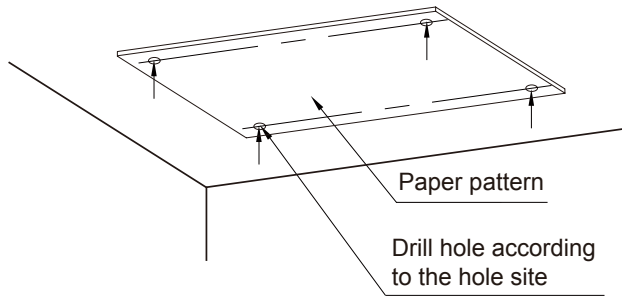
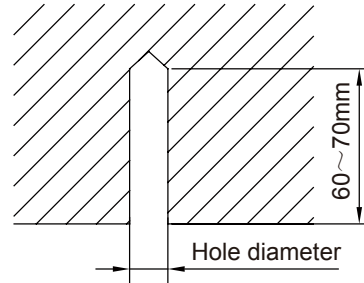

Fig 4.1.4
Fig 4.1.5
(1) Cut out the installation paper pattern according to the hook installation dimension of unit. Place the installation paper pattern on the installation area as shown in Fig 4.1.4. Punch holes on the installation area according to the 4 spots on the paper pattern; The punching diameter may refer to the diameter of expansion bolt, about 60mm to 70mm depth, as shown in Fig 4.1.5.